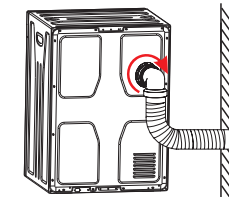

Figure 6
- 3.Route the hose to the outdoors via a window or it can be connected to an outlet in the wall (see the diagram figure 6).